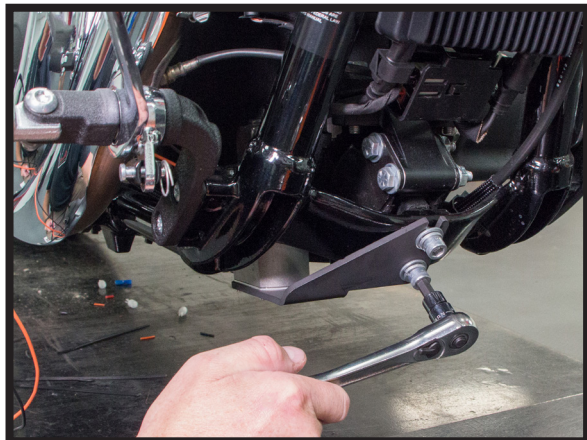

FIGURE 9
5. SECURE THE PUMP ASSEMBLY TO THE FRAME USING THE MOTOR MOUNT BOLTS AS DEPICTED BELOW. (FIGURES 9, 10)